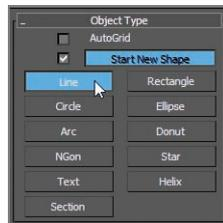

FIGURE 3.15
1. Go to the Create panel and click the Shapes button (); then click the Line tool, as shown in Figure 3.15.